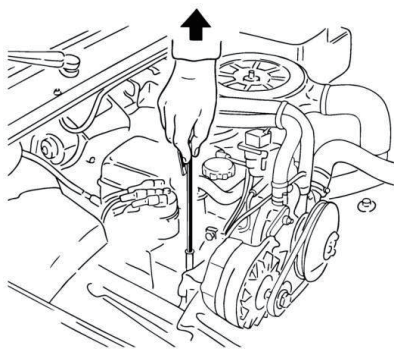
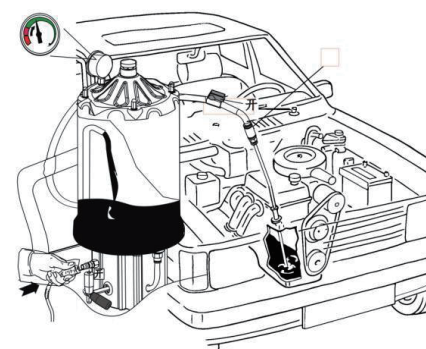

FIG.2
FIG.4
- 1. Ensure the oil tank is under negative pressure, FIG.2 remove engine oil case., choose suitable probe (which is the largest diameter one can be inserted into the engine) and tightly connect it to the extraction pipe connector. Insert the end of the probe into the engine oil inlet hole, FIG.4 Turn on the ball valve(No.9TVP32HC-1703)for oil extraction.